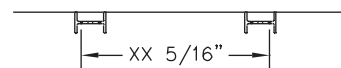

FIG. 3
2. If only one hang-on component is being hung on the wall track, the wall track may be spaced so the outside slots are used. (Figure 3).